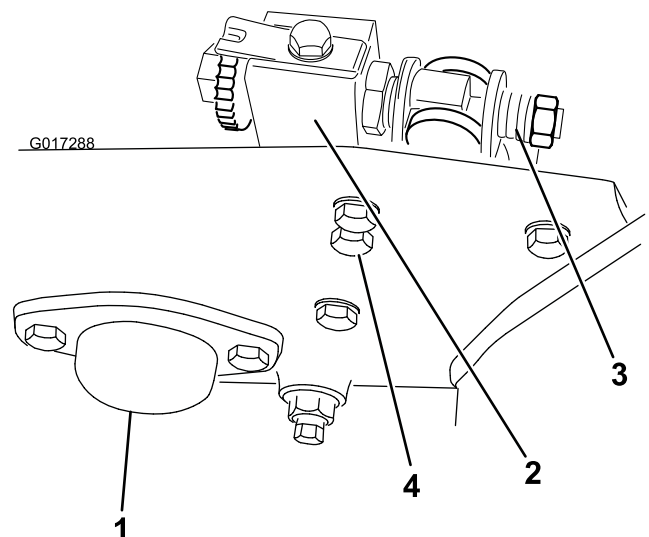

Figure 3
2. Remove and retain the end cap and fasteners for use if you ever remove the groomer (Figure 3).